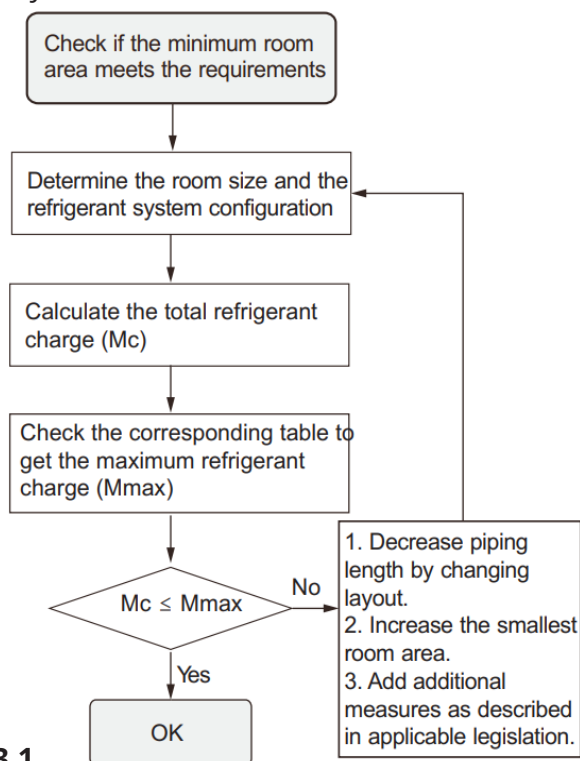

Fig. 3.1
- The area of the connected rooms, on the same floor, connected by permanent opening in the walls and/or doors between occupied spaces, including gaps between the wall and the floor, can be considered a single room when determining compliance to Amin, provided all of the following conditions are met as Fig. 3.1.